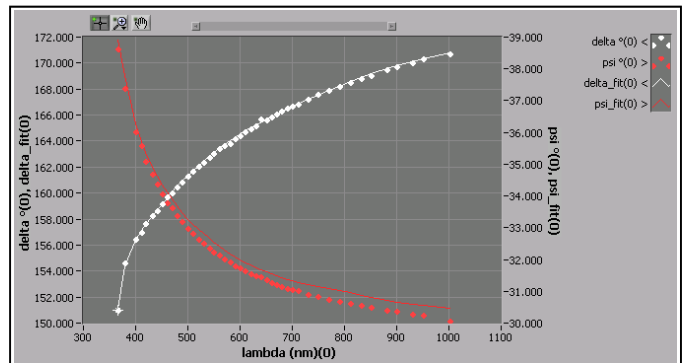

Fig.2: Spectrum of Delta/Psi, fit with thickness  $d = 26.21 \pm 0.15$  nm of SiO2-layer on Si-wafer
- Fit a spectrum (fig.2) in order to obtain the mean layer thickness in the ROI. Optionally the dispersion of the refractive index is obtained.
In case of mixed or doped semiconductor materials it is often necessary to measure the dispersion parameters of the refractive index, e.g. Cauchy-parameters, as fit parameters besides the thickness. To this end a wavelength spectrum (fig.2) was measured. The fit of the measured spectrum is already good using the refractive index from literature.